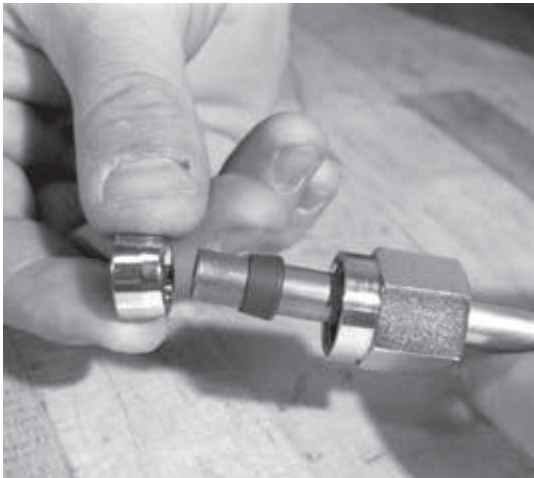
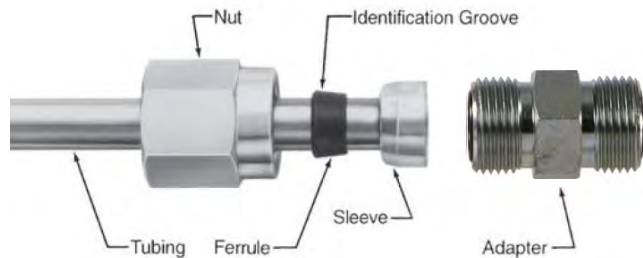
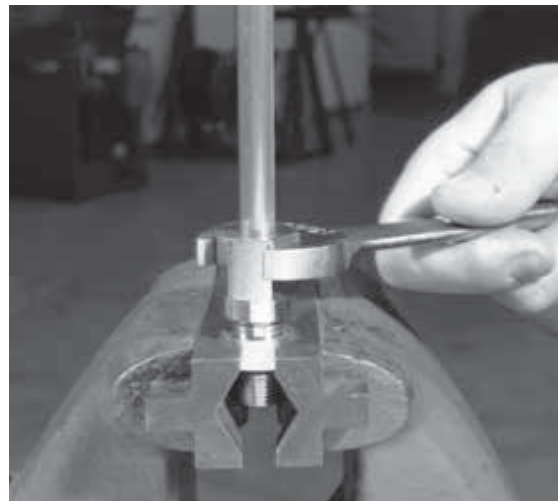

FIGURE 15: PLACE A NUT, FERRULE AND SLEEVE ONTO TUBING
FIGURE 16
FIGURE 18: MARK THE NUT IN RELATION WITH THE ORS-ORS ADAPTER AND TIGHTEN 1 ½ TURNS WITH A WRENCH (IMAGE NOT SHOWING REAL BUS CONDITION)
5. Place a nut, ferrule and sleeve onto tubing, assuring that the identification groove of the ferrule is toward the nut (Figure 15). Assemble the nut to the ORS-ORS adapter until handtight with the tubing fully inserted into the fitting until bottomed out. Mark the nut in relation with the ORS-ORS adapter and tighten **1 ½ turns** with a wrench (Figure 16 to Figure 18). The ORS-TF sleeve cannot be used to preset multiple tube assemblies. It may be used once for presetting.